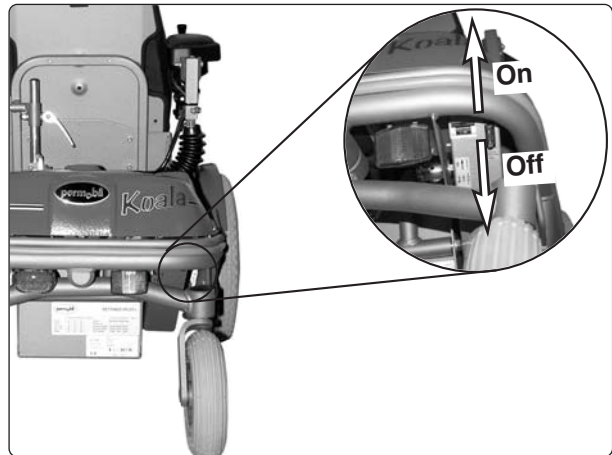

Fig. 30. Circuit breaker, 63A (Off-On).
3. Put the circuit breaker to the "OFF" position, see fig. 30.